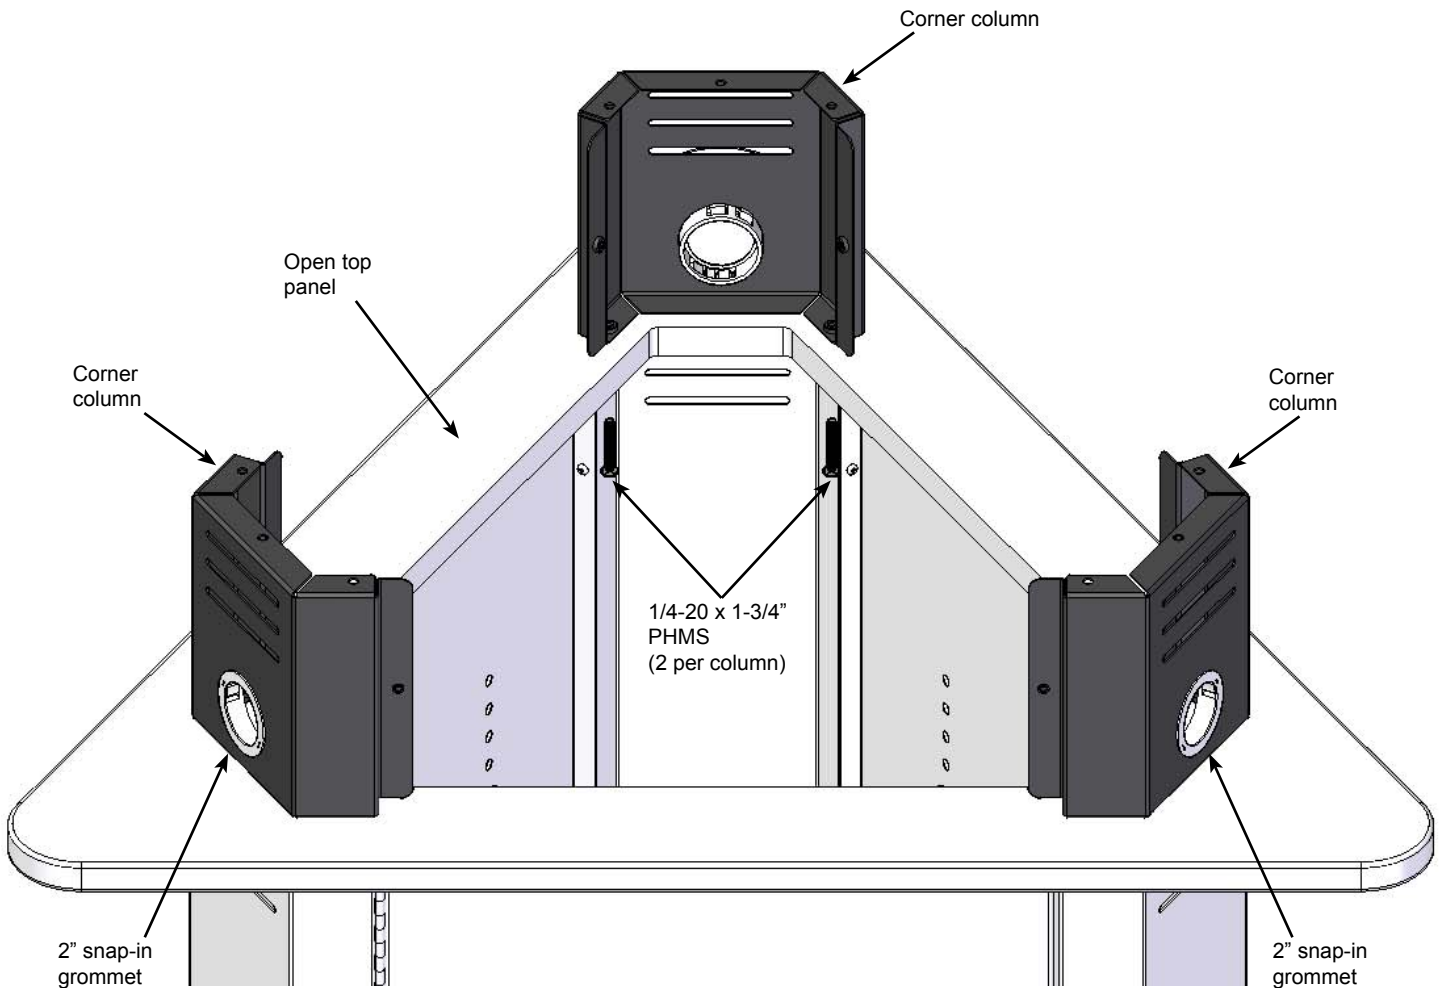

Figure 3A
1. Attach each corner column to the installed open panel top as shown with (2) 1/4-20 x 1-3/4" PHM screws. (installed from under the open top panel). **Figure 3A**. Do not tighten these screws completely yet.